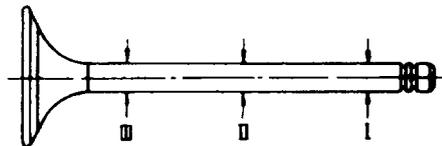

**Figure 6 Removing the Valve Seat**
- q. If valve seats are to be removed, run a bead of weld on the angled face of the valve seat (Figure 6). As the weld cools, it will cause the valve seat to shrink allowing it to be easily removed.